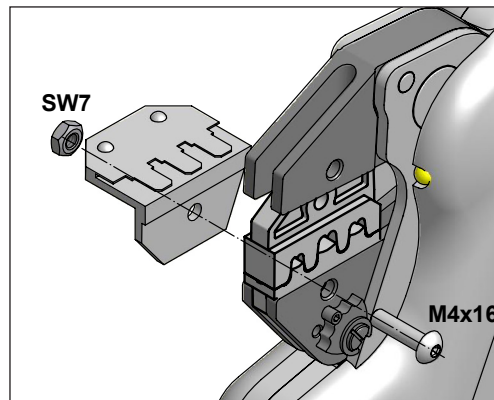

Figure 7
### 8.1.2.1 Examples: non-insulated open plug connectors, D-sub plugs, etc. (Figure 7)
5. Push the positioning guide onto the M4x16 screw as shown in Figure 7 and secure using the nut (SW 7).